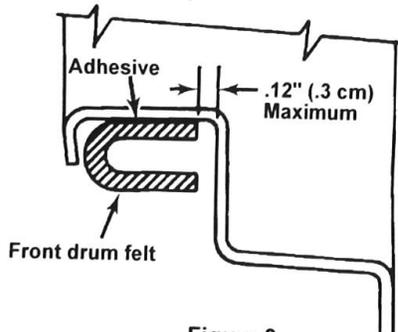

Figure 3
8. Fold seal and put into place on the flange. (See Figure 3.) Let dry approximately five (5) minutes and then reassemble panel to machine.